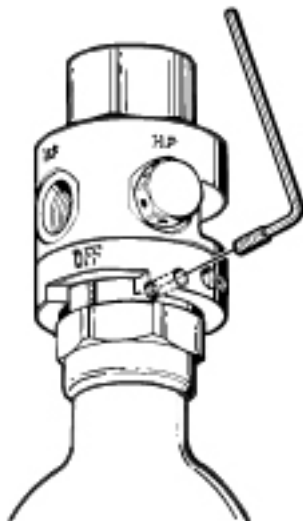

Figure 32 - Indicator ring alignment
24. Mate the stem of the valve assembly through the flat side of the indicator ring (15), so that the indicator ring is flush against the first stage body and the "OFF" aperture is facing down.
26. Turn the indicator ring clockwise to align the set screw hole with the female threaded hole of the valve assembly which is to the immediate right of the indicator pin. (See Figure 32).